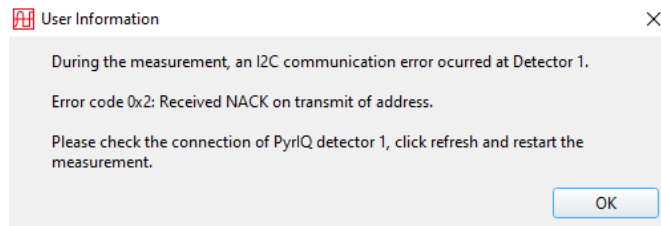

Fig. 26 Message when connection to PyriQ Detector 1 is lost during DAQ
- A similar scenario occurs if a previously initialized detector is disconnected during the data acquisition. In this case, the user information shown Fig. 26 will appear.